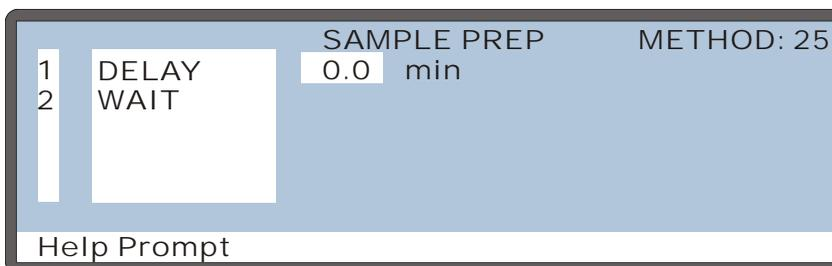

Figure 3-13. Example Sample Prep Screen
2. Press **Insert** to add a new step above the **WAIT** step. A **DELAY** step of 0 minutes is added by default (see Figure 3-13).